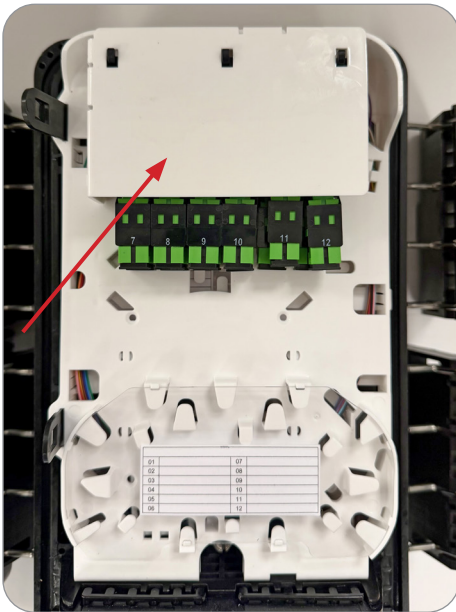

Figure 48
1. Remove the white cover by pulling upward to expose the pigtail connectors attached to the adapters. Disconnect and remove the adapters and pigtails that will be replaced by the PLC splitter assembly. (Figure 48)